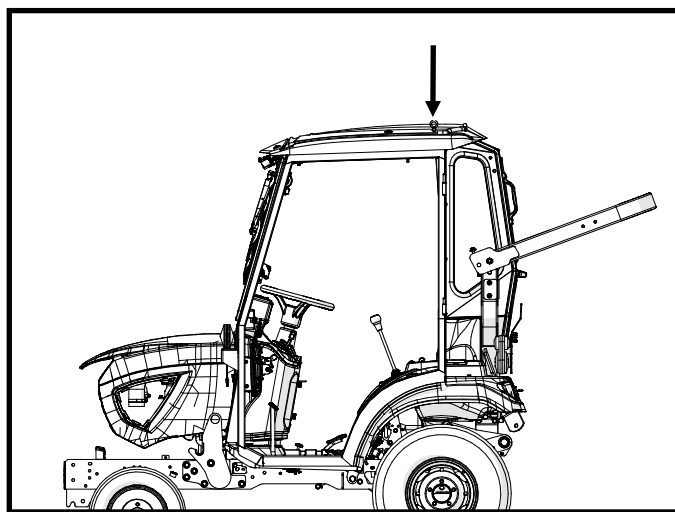

Figure 28: Lower Cab Onto Tractor
28. Open hood and then carefully lower the cab over the tractor oriented per figure 28 until the front legs are about 1/4 inch above the front of the tractor floorboard. Ensure that the wiring front and back does not get pinched under the cab as it is lowered into position.